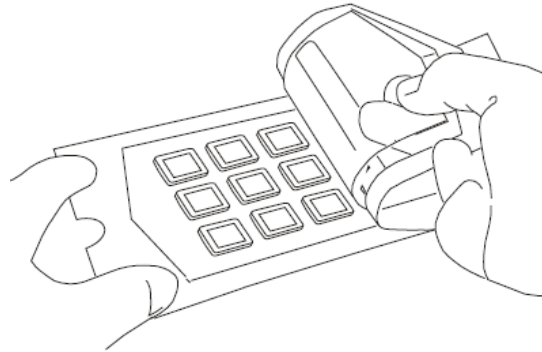

Figure 1
1. Place a Secure Slip™ chamber onto a work surface as shown in Figure 1.